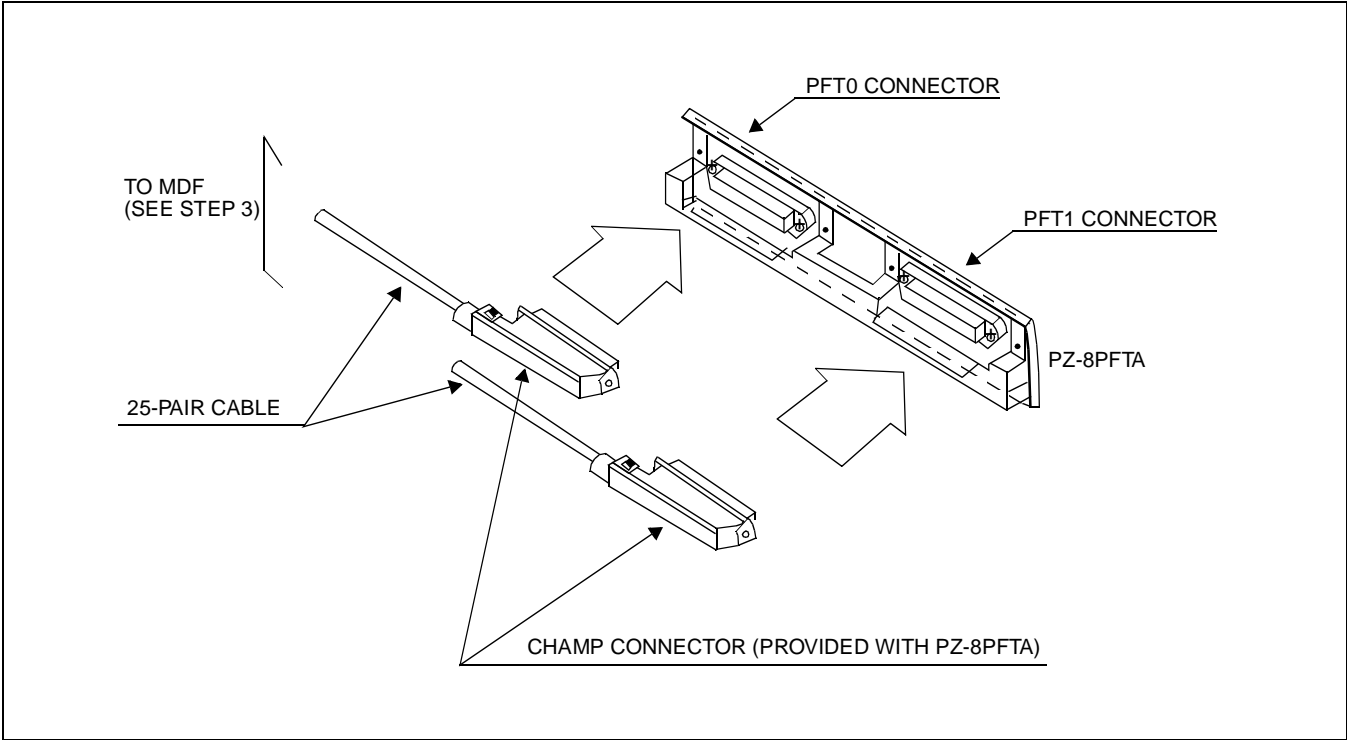

Figure 007-42 Connection of 25-Pair Cable and PZ-8PFTA
STEP 1: Connect the champ connectors of 25-pair cables to the PFT0 and PFT1 connectors on the PZ-8PFTA card as shown in Figure 007-42. Then, secure them to each other using screws and tie wraps.